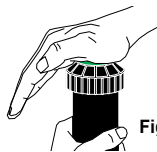

Figure 1
1. Turn the top of the head all the way to the left until it stops and then all the way to the right. This is the starting point for the rotation (Figure 1).